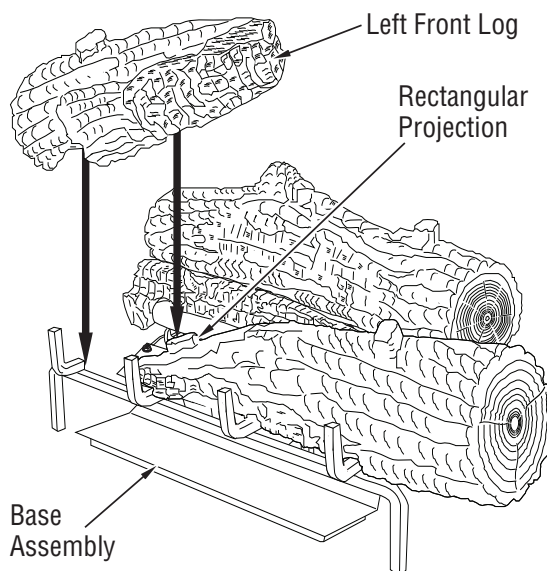

Figure 52 - Installing Left Front Log
- Place the left front log onto the base and the right front log as shown in **Figure 52**. The left front log has a notch on the bottom that will line up with the projection on the right front log.